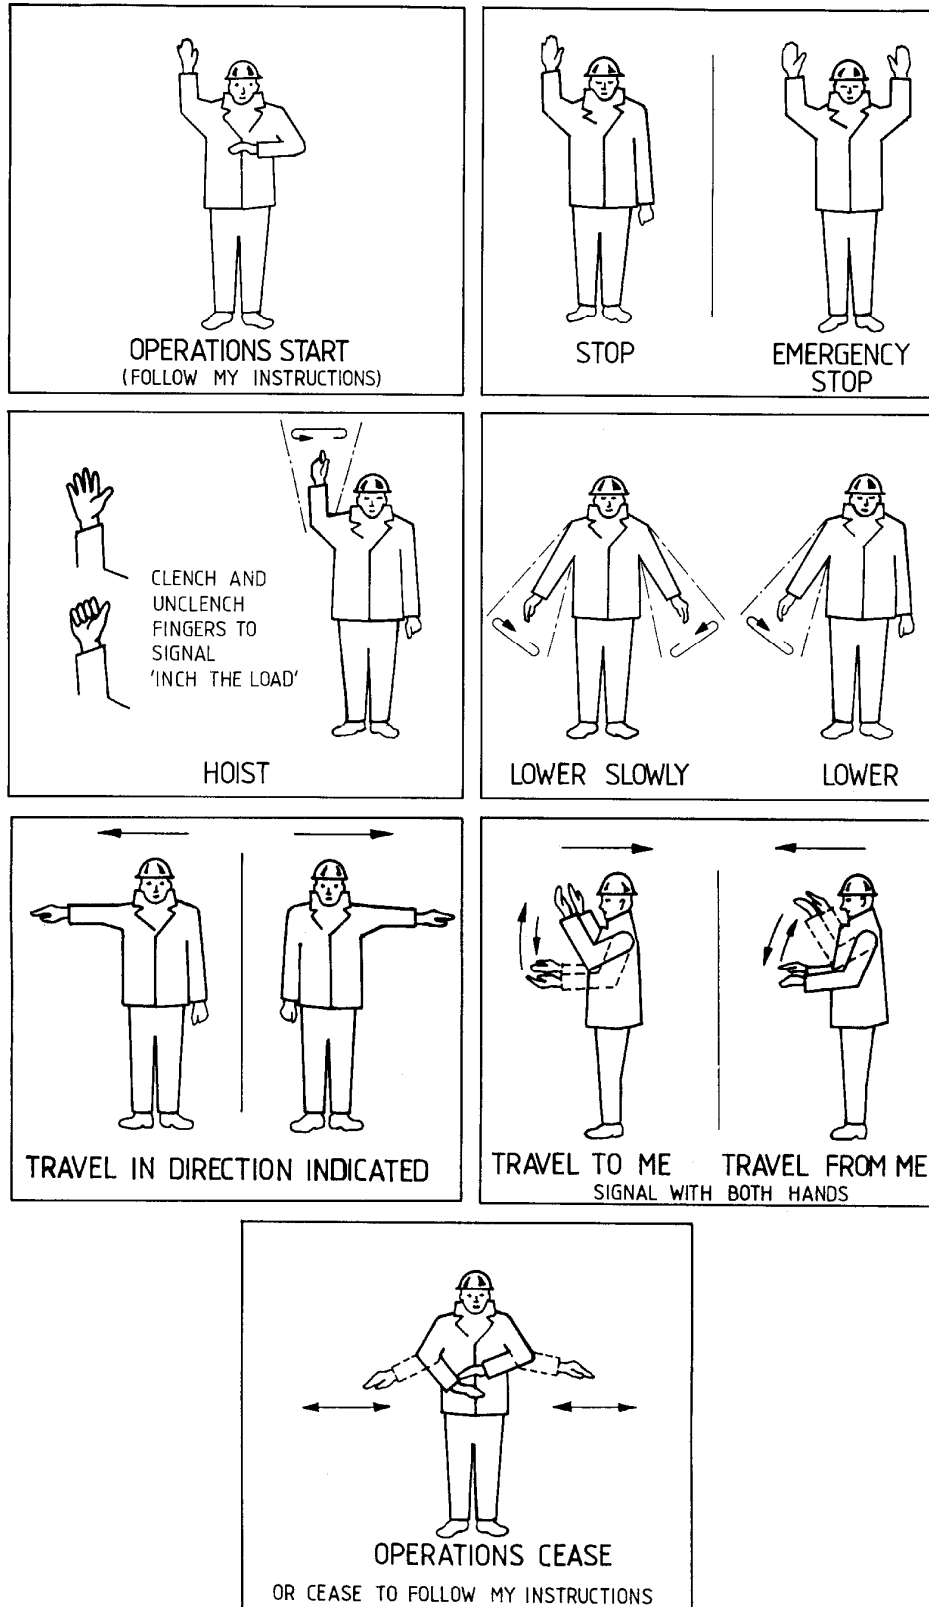

Figure 29 - Recommended Hand Signals
19. Ensure that you can see the hook or load clearly at all times or are receiving signals from someone who can. Ensure that both parties know the full meaning of the hand signals for operating the crane / hoist. See Figure 29 for recommended hand signals.